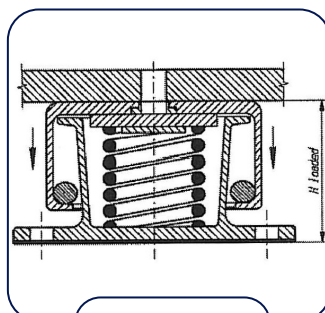

FIG. 2
- With the full static load of the machine acting upon the steel spring isolators, the steel spring isolators will compress as a result of this static load [fig.2]. The load of the machine will be transmitted directly to the steel springs through the top cover (1) and the pressure plate (2).